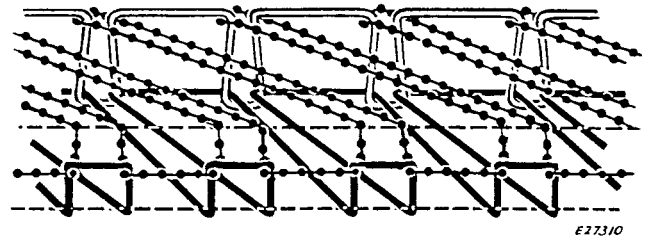

Fig. 5. Stitch Formation
- ... machine will be fitted on specific order for three-thread tight needle thread stitch (Type #504, see Fig. 5). Refer to page 11 for instructions on threading.